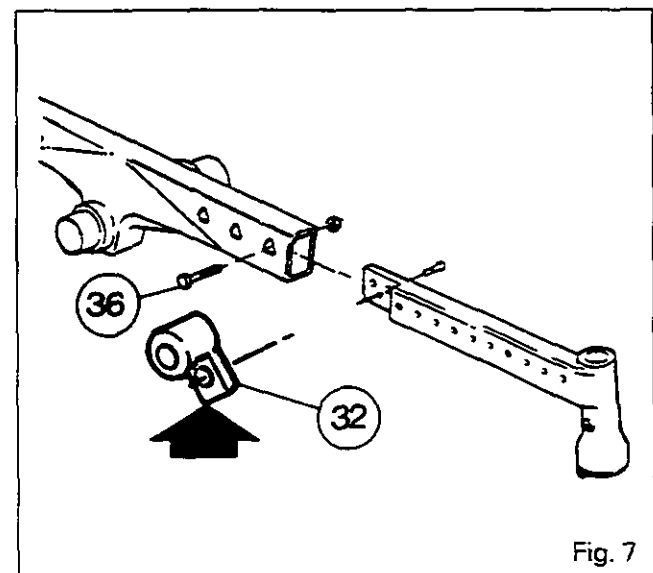

Fig. 7
Note: When the tractor is used with the widest track, the spacer (32) must be used when fitting the 3rd screw (36) (Fig. 7).